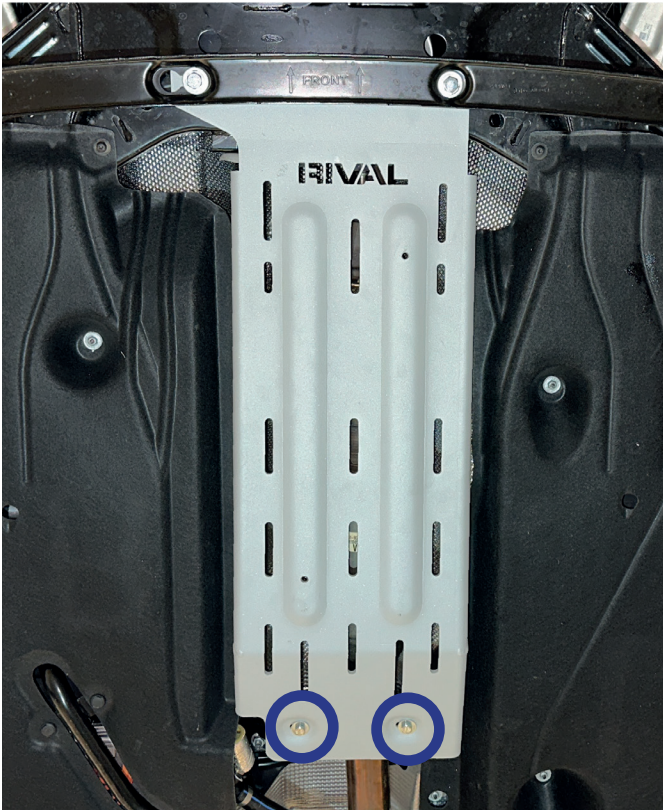

Fig. 6
6. Secure the rear of the skid plate to the previously installed bracket using M10x25 bolts and M10 washers (items A, B) as shown in Fig. 6.